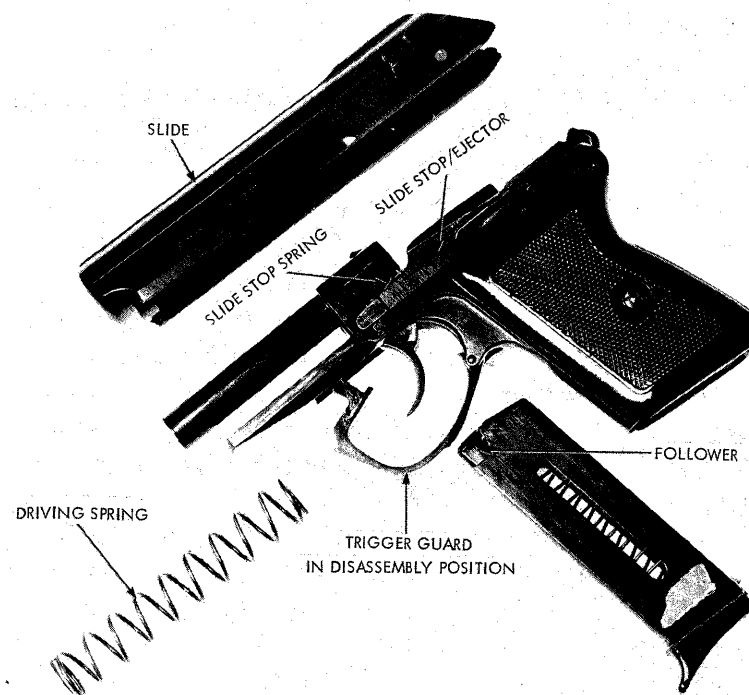
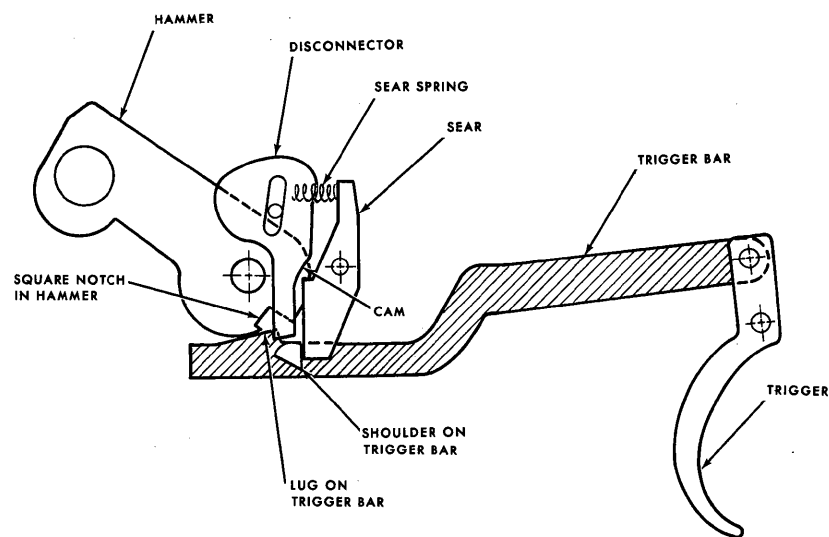

Figure 16. P-64 pistol disassembled.
Figure 17. P-64 trigger mechanism.
(1) Clear the weapon (para 21f), but do not insert the magazine.
(2) Pull the front of the trigger guard down, and when it is clear of the receiver, press it to one side and rest it against the receiver (fig 16). Grasp the slide by its milled grooves, pull it fully rearward, and lift its rear end up and out of engagement with the receiver. Ease the slide forward over the barrel until it is free. Pull the driving spring off the barrel.
(3) No further disassembly is necessary or desirable.
b. If the hammer is in its forward position, finger pressure on the trigger moves the trigger bar forward. A lug on the rear top of the trigger bar mates with a square notch in the bottom of the hammer (fig 17), and, as the trigger bar moves, it causes the top of the hammer to rotate back. When the trigger bar is almost at the limit of its forward travel, the rotary motion of the hammer has moved its notch up and out of contact with the trigger bar lug; when this occurs, the firing spring swings the hammer to fire the cartridge.
c. When the hammer is cocked, the sear nose, under pressure of the sear spring, snaps into the sear notch on the hammer and holds the hammer cocked (fig 17). When the trigger is pressed and the trigger bar moves forward, a shoulder inside the trigger bar contacts the sear and swings the bottom of the sear forward and out of engagement with the hammer. The hammer, under the force of the hammer spring, swings forward to fire the cartridge.
d. When the cartridge fires, it forces the slide rearward. The empty cartridge case is held to the slide by the extractor until the ejector (fig 16) contacts the case and expels it from the weapon. The slide also forces the disconnector down, and the disconnector, in turn, forces the trigger bar down. The shoulder on the trigger bar (fig 17) releases the sear, which, under pressure of its spring, swings back where it can engage and hold the hammer cocked. When the slide completes its recoil movement, the driving spring forces the slide forward to load a fresh cartridge from the magazine into the barrel. When the trigger is released, the trigger bar moves rearward until the shoulder clears the sear, at which time the trigger bar swings up and the pistol is ready to fire another shot.
e. When the safety is set to safe, a pair of lugs swing into position beside the rear end of the firing pin. These lugs protrude past the end of the pin to prevent the hammer from striking the pin. As the safety continues to turn, a cam on its body forces the disconnector (fig 17) downward; the disconnector strikes the sear and cams the sear out of engagement with the hammer, which falls. The disconnector also depresses the trigger bar so its notch cannot mate with the hammer. The hammer strikes the lugs on the safety, but because these protect the firing pin, the pistol will not fire, and, while the disconnector holds the trigger bar depressed, pressure on the trigger will not move the hammer or sear; the
f. The ejector/slide stop is forced upward by the magazine follower when the last cartridge is fed from the magazine. When the slide recoils after firing the last cartridge, the slide stop moves up and holds the slide open. When the empty magazine is removed, a rearward trigger on the slide, by relieving pressure on the slide stop, will allow the slide stop spring (fig 16) to force the slide stop down where it cannot engage the slide.